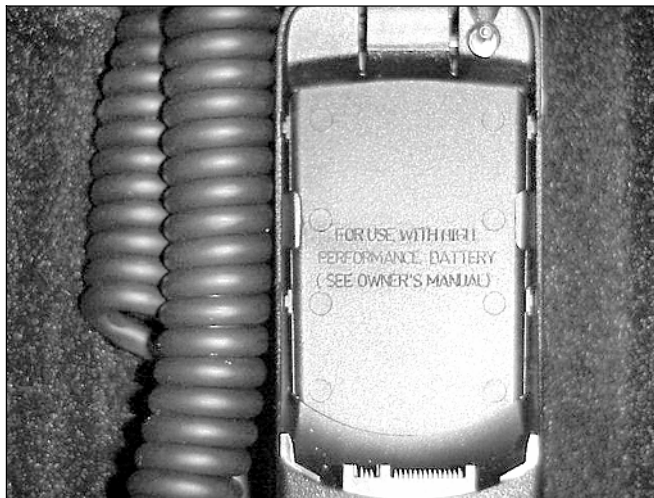

Figure 14
27. Install the battery insert plate marked “FOR USE WITH HIGH PERFORMANCE BATTERY” when using the high performance battery (800 mAh) with the telephone (Figure 14).
Note: The embossed text on the installed battery insert plate must face up as in Figure 14.